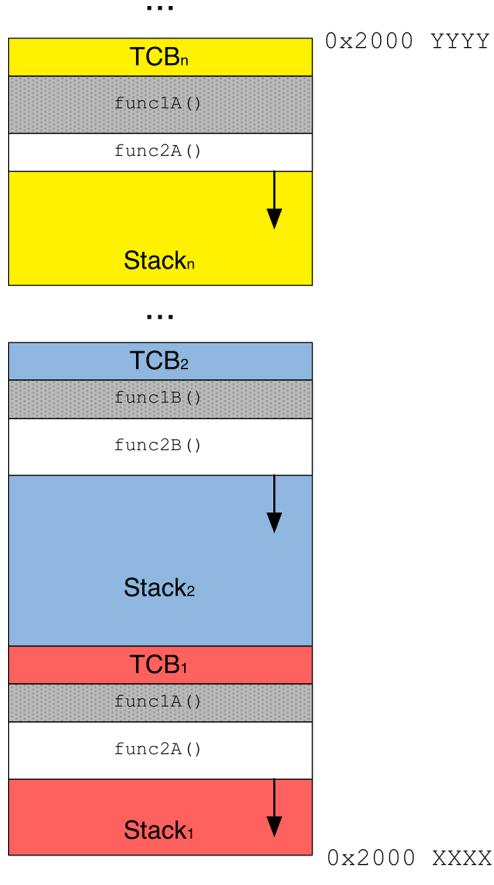

Figure 2: How the memory is organized in several tasks by an OS
**Figure 2** shows the way SRAM memory is typically organized by an OS. Each task is represented by a memory segment containing the *Thread Control Block* (TCB), which is nothing more than a descriptor containing all relevant information related to the task execution just “a moment”9 before it is preempted (the stack pointer, the program counter, CPU registers and other few things), plus the stack itself, that is activation records of those routines currently invoked on the thread stack. By jumping between several threads, thanks to *context switch* operations, the OS guarantees the same execution time to all threads, giving the impression that firmware activities are performed in parallel.